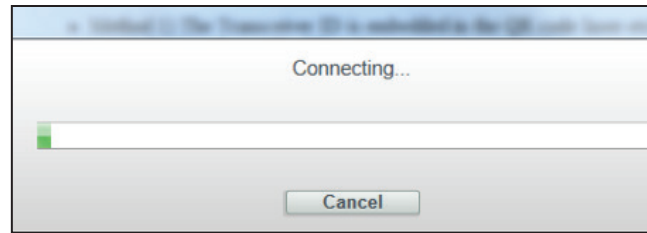

Figure 12. The Connection status bar.
- (c) During the connection process, a status bar will be displayed. See Figure 12. Wait about 10 seconds for the connection process to finish, or click on the **Cancel** button to cancel the connection process.